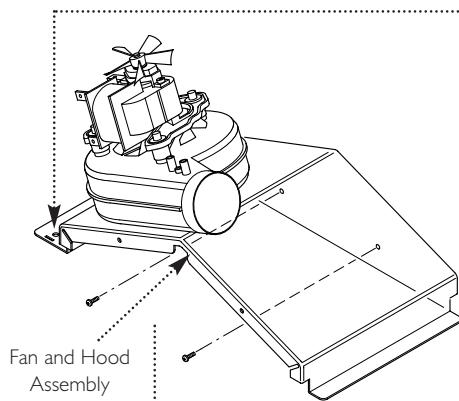

Fig. 57
12. Undo the screws securing the fan and hood to the appliance back panel. Draw the assembly forwards (Fig. 57).